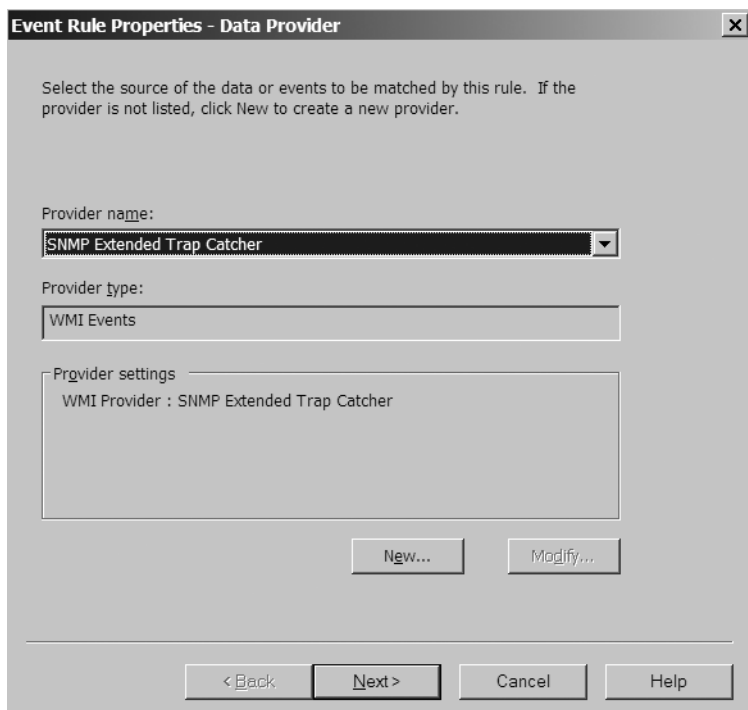

Figure 3-12. *Selecting the data provider*
2. In the Event Rule Properties - Data Provider window, select SNMP Extended Trap Catcher as the provider, and then click Next. This is shown in Figure 3-12.